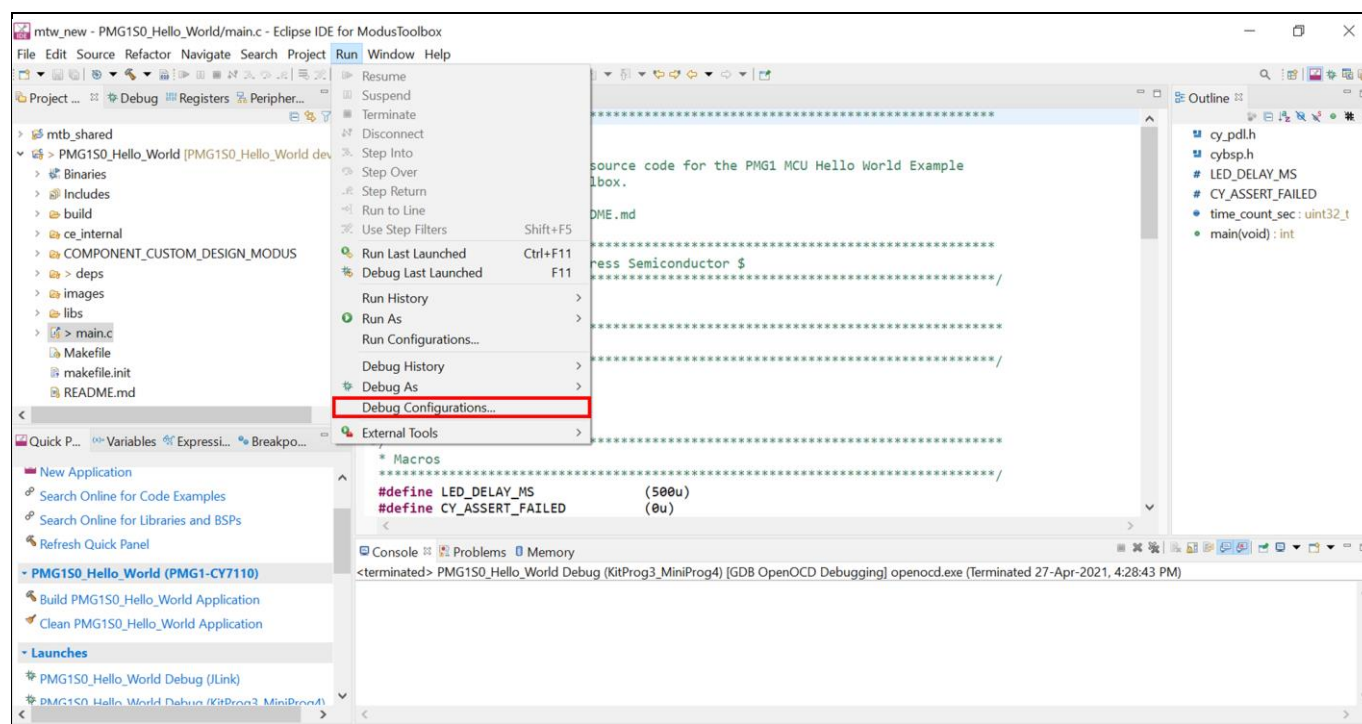

Figure 43 Selecting Debug configurations from the Run menu
7. Go to **Run** menu, click on **Debug Configurations**, as shown in **Figure 43**.